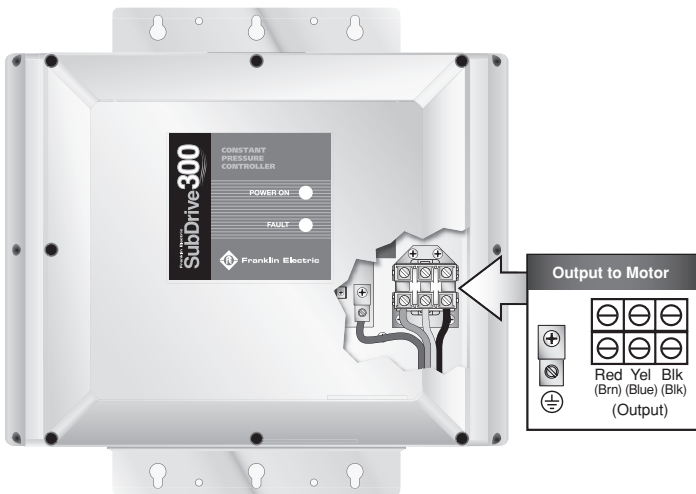

Figure 2: Motor Lead Connections
5. Feed the motor leads through the opening on the bottom right side of the unit and connect them to the terminal block positions marked GND (Green ground wire), Red, Yellow and Black (Figure 2).